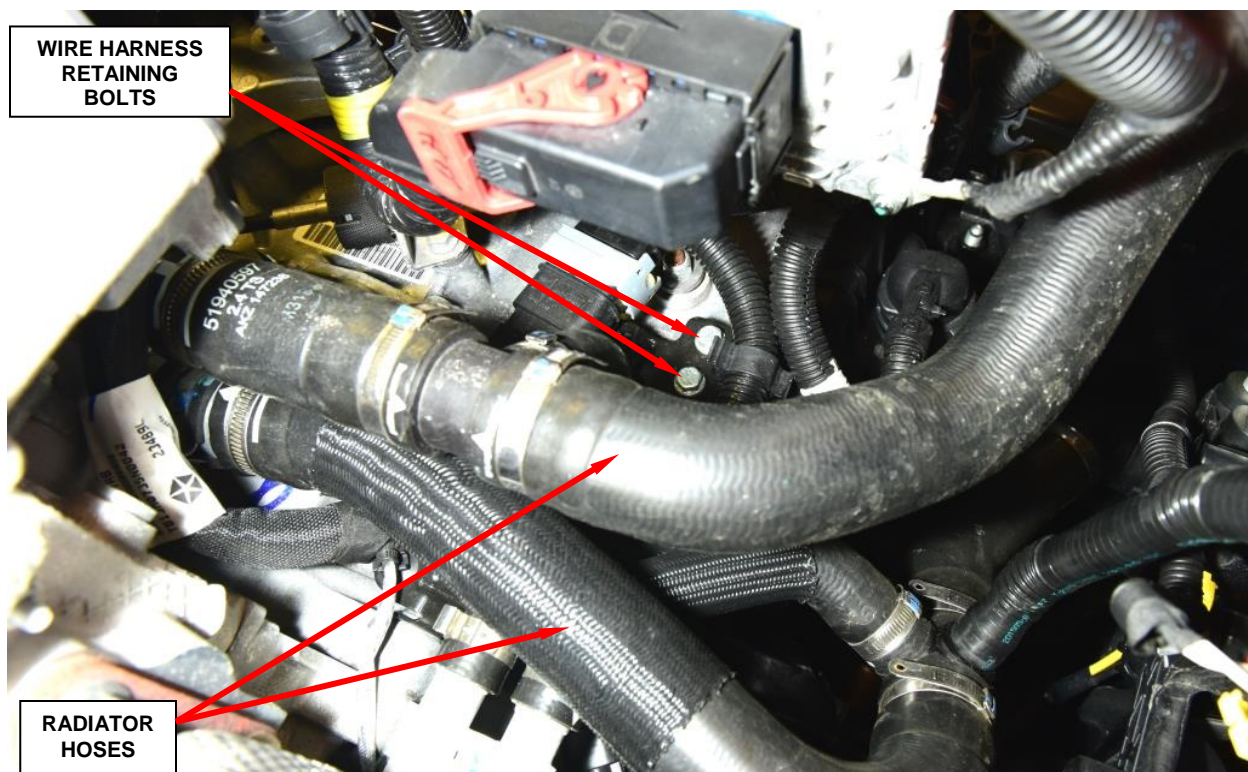

Figure 2 – Wire Harness Bracket Retaining Bolts
4. **For BU/FB models**, remove and save the two transaxle wire harness bracket retaining bolts (Figure 2).